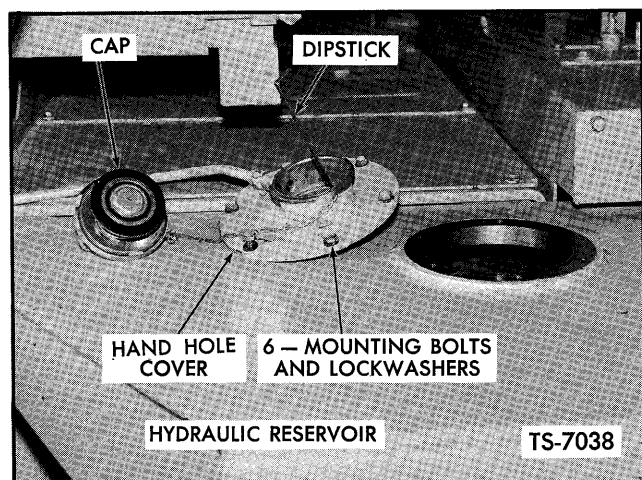

Fig. 2. Remove Reservoir Cap, Dipstick and Hand Hole Cover
1. Loosen reservoir cap slowly to relieve pressure in hydraulic reservoir. Remove reservoir cap, dipstick, and hand hole cover as shown in Figure 2. On models using two filters, the second filter is located under the plate next to the reservoir filler cap.